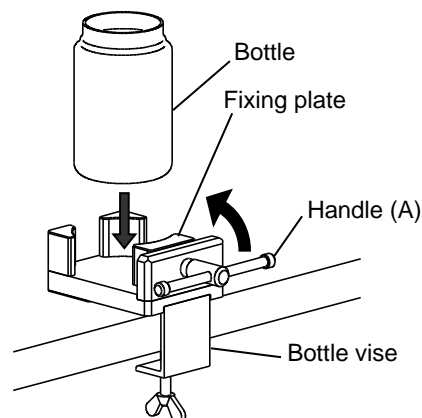

Fig. 4-1
- Do not tighten the handle (A) too tightly. Failure to do so might cause the bottle to be deformed.
- (1) Set the bottle to the middle of the bottle vise.
- (2) If there is not enough space for the bottle, turn handle (A) counterclockwise to open the bottle vise and give the bottle more space. (Fig. 4-1)